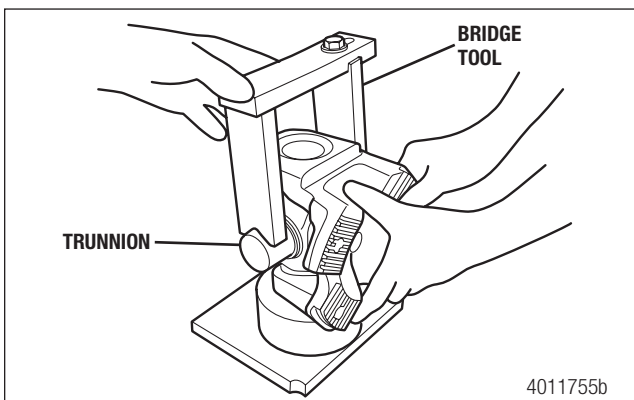

Figure 5.79
2. Place the drive flange in the receiver cup. Install the press bridge tool on the trunnions. Figure 5.79.